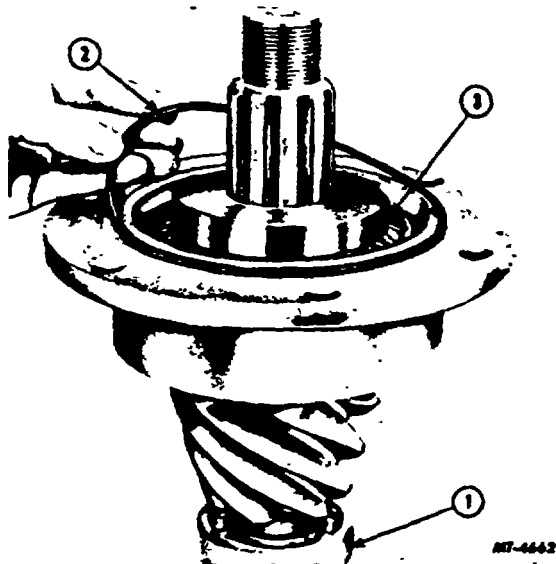

Fig. 7 Removing Pinion Cage Oil Seal
17. Remove pinion cage "O" ring type seal (Fig. 7).